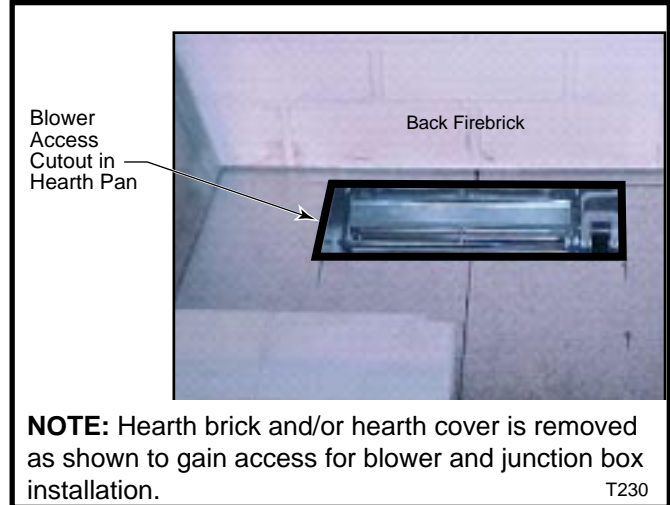

Fig. 9 Blower access.
Step 4: Locate the blower access cutout found at the rear of the hearth pan. Next, remove tape backing from tape on blower housing. Center the blower assembly in the access cutout area with the blower outlet duct pointing upward, then press firmly to attach foam tape to the back and bottom of the fireplace. (Fig. 9)